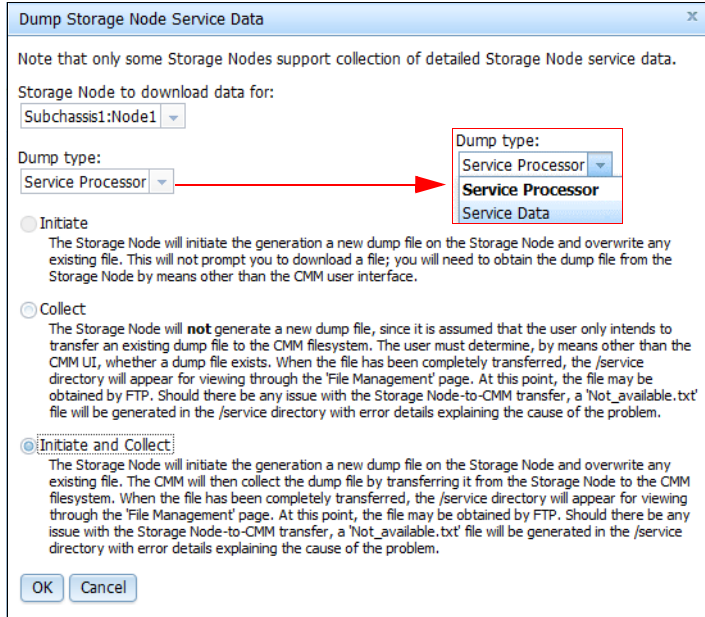

Figure 3-36 Initiate and Collect
- ▶ In our case, we click the drop-down menu **Dump Type:** and then select **Service Data**. Choose the option **Initiate and Collect**, which allows the storage node to initiate the generation of a new dump file on the compute node and overwrite any existing file. The CMM will then collect the dump file by transferring it from the node to the CMM file system, as shown in Figure 3-36.